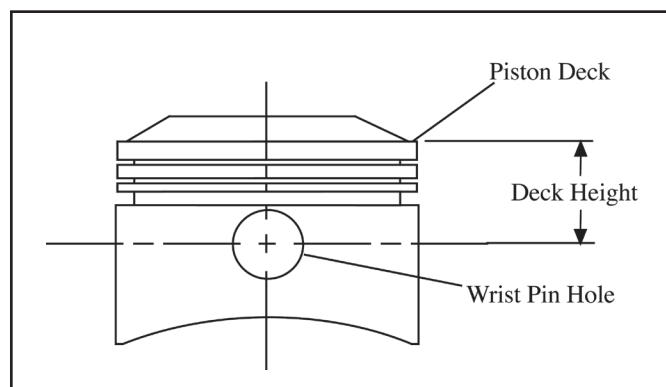

Figure 5
3. Note where piston deck (See **Figure 5**, piston deck diagram) is positioned in relationship to head gasket surface. Piston deck (flat located just above top compression ring groove), not dome, must be flush with or slightly below gasket surface.